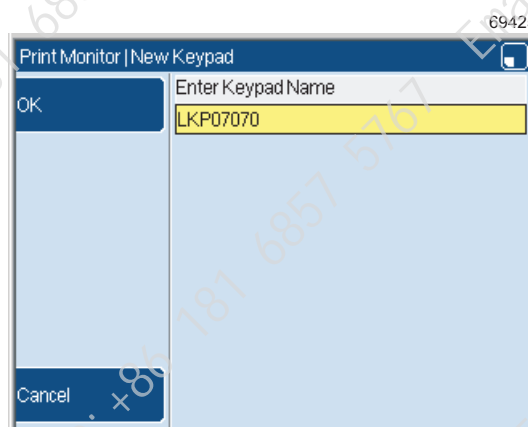

Figure 6. New Keypad page: keypad name
- 2 Press the **New** key and enter the keypad name "LKP07070", as shown in the example in Figure 6.